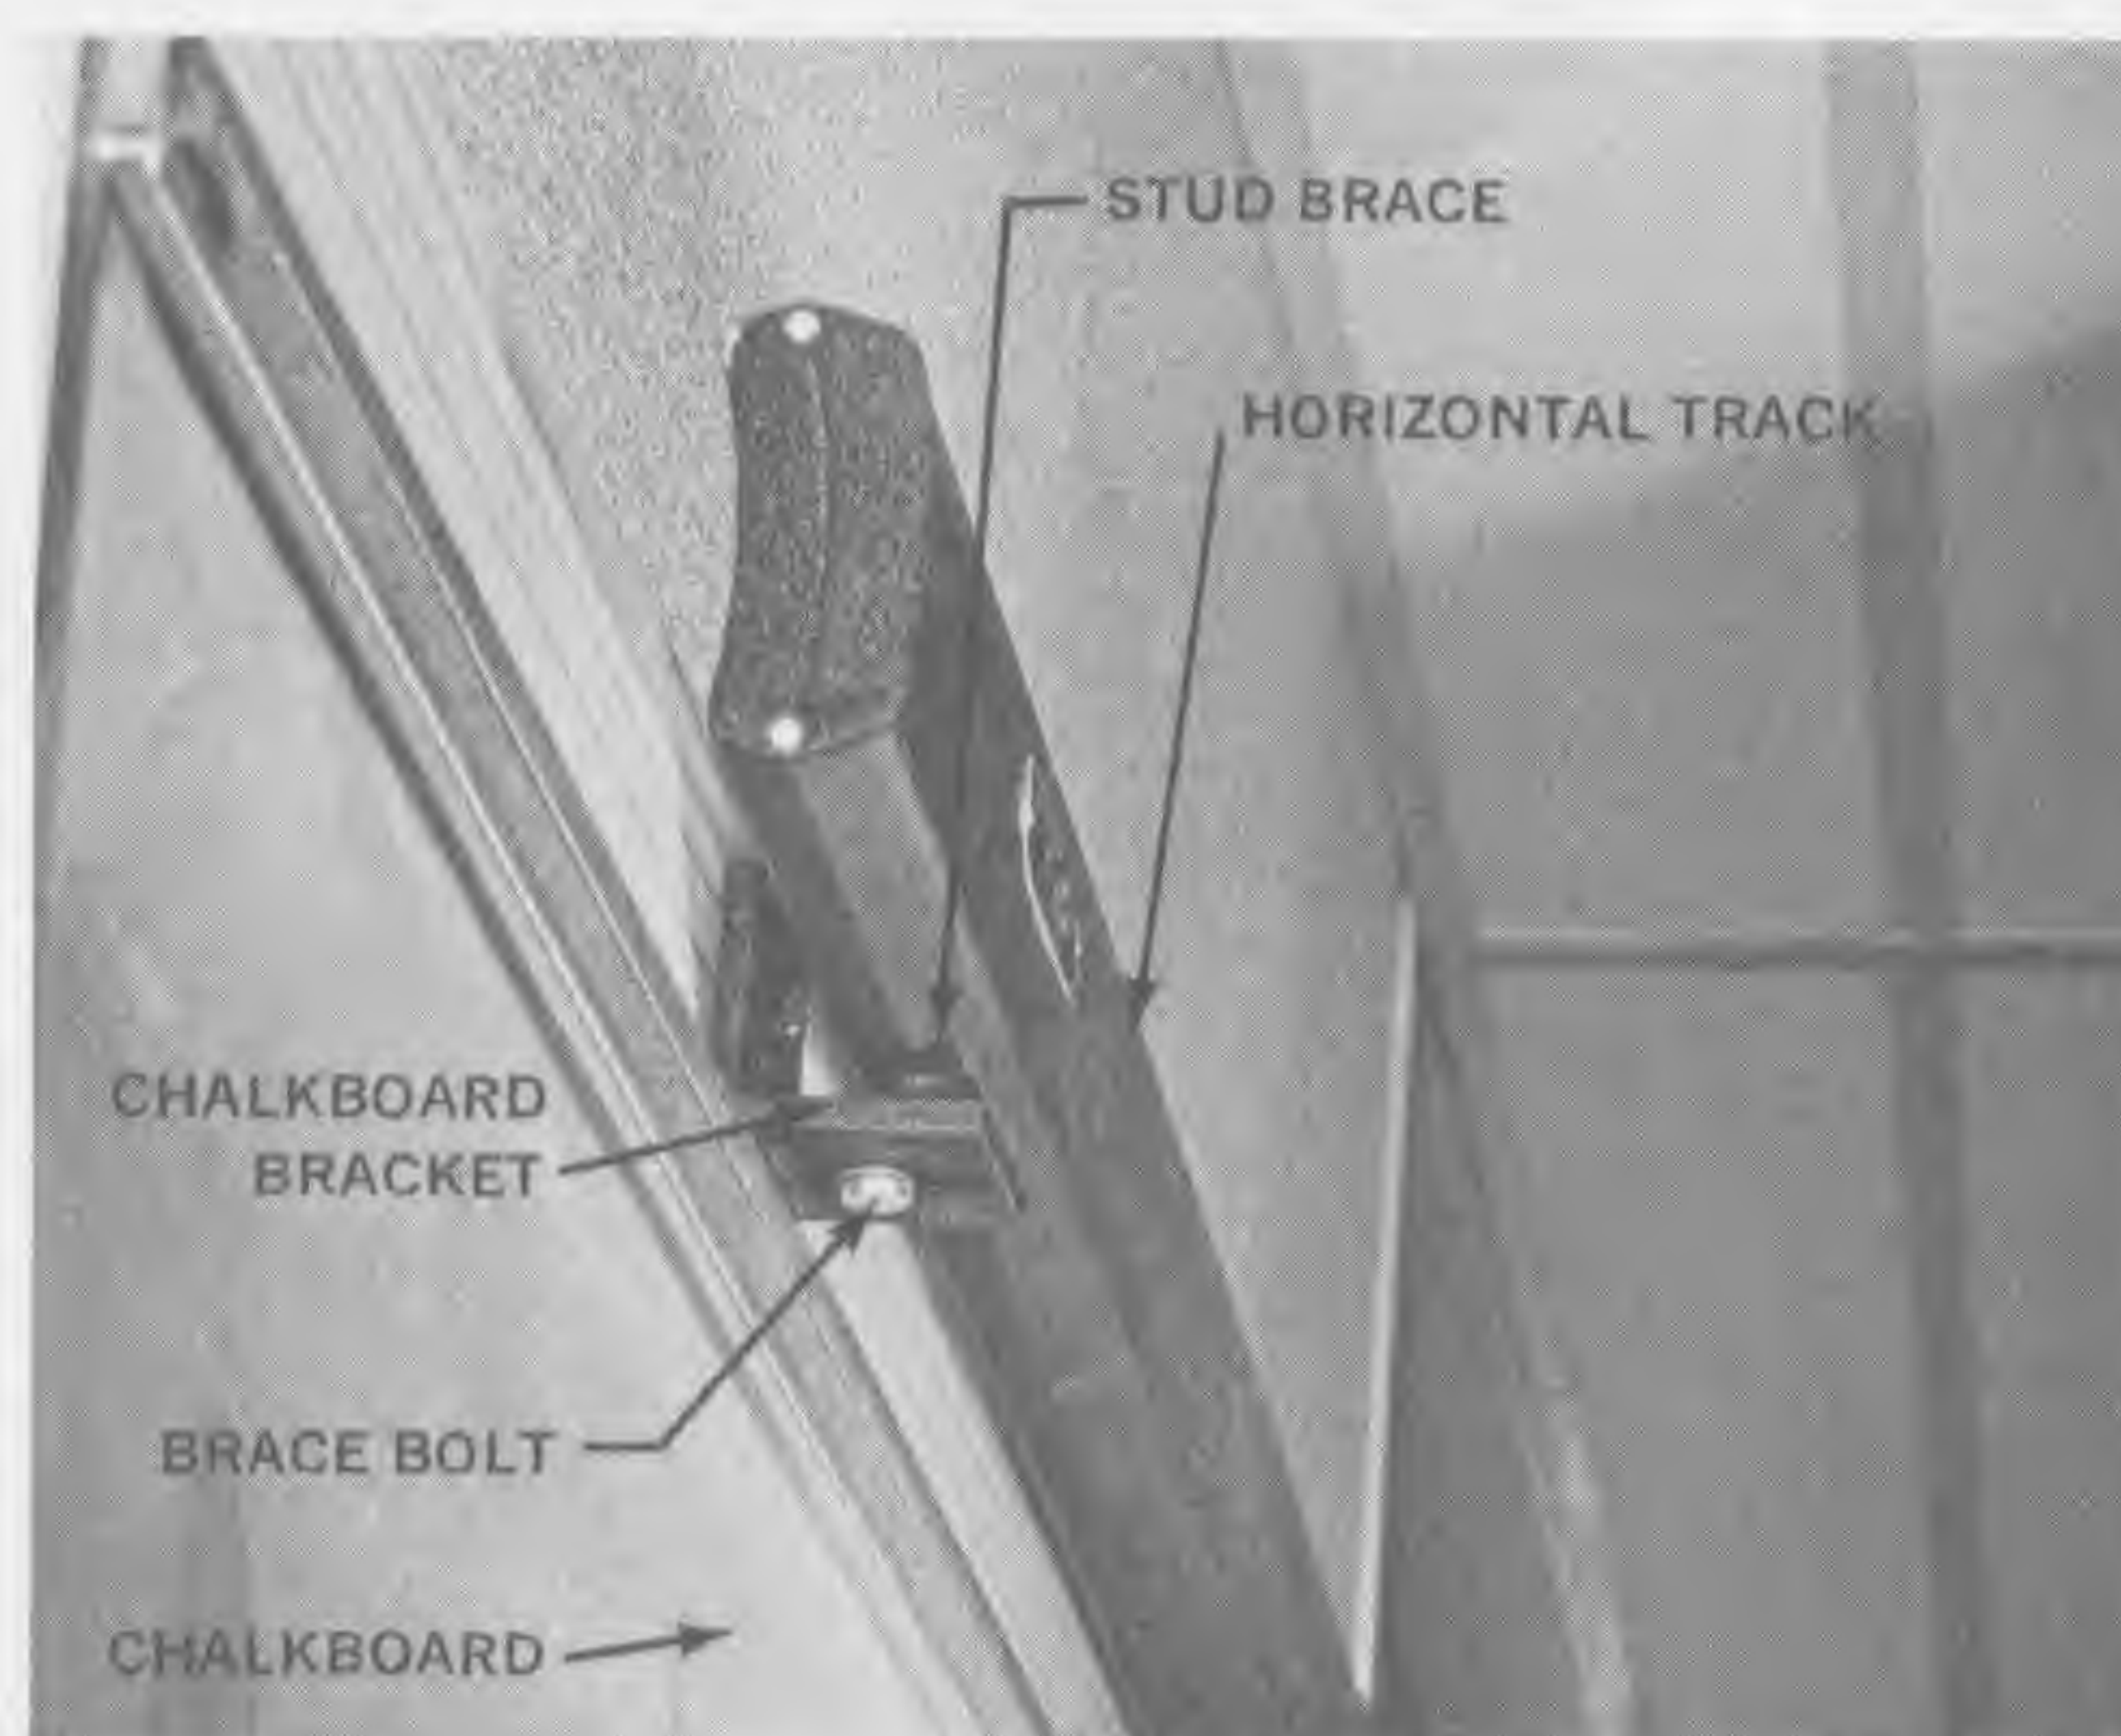

Fig. 28
Chalkboard machines are equipped with brackets which can be attached by screws to the wall above the chalkboard (Fig. 28). In most cases, a better mounting method is first to nail or screw (through wall studs for best results) a length of $\frac{3}{4}$ " x 2" wood strip to the wall directly above the chalkboard and then attach the chalkboard brackets to this strip. In any case, the best technique is to locate the screw holes by holding the horizontal track, with brackets attached, above the chalkboard in the desired position. Then the brackets can be removed from the track and mounted individually in their proper places. The track can then be easily mounted to the brackets.
2. Release brace bolts on mounting brackets (Fig. 28) and adjust the horizontal track until the pivot joint remains parallel to the board throughout the horizontal travel of the vertical track.